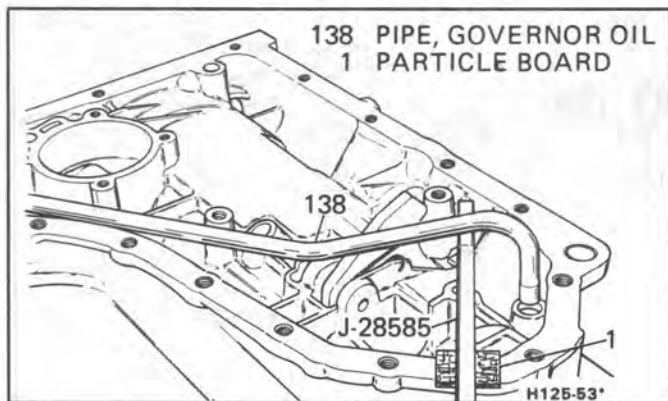

Figure 47 Governor Pipe Replacement
**Inspect (Figure 47)**
- Governor pipe (138) for damage or cracks
**Remove or Disconnect (Figure 47)**